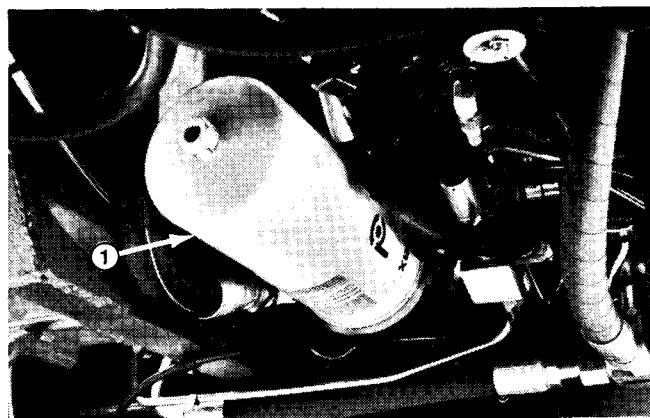

Figure 51
3. Put drain pan under filter and remove filter (Fig. 51). Coat o-ring of replacement filter with clean hydraulic oil. Install filter and tighten by hand until filter element is firmly seated against filter head.